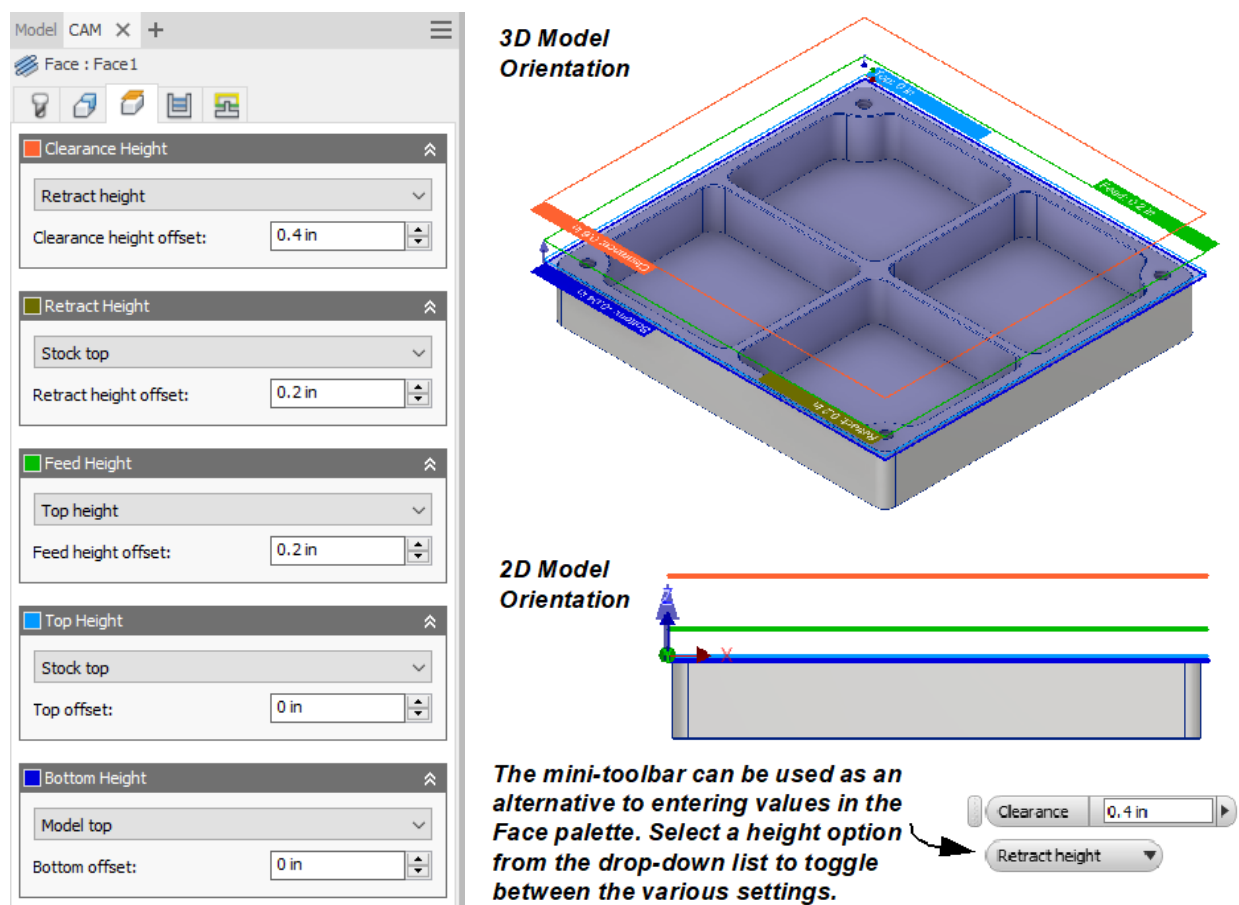

Figure 15
3. Select the  (Heights) tab. The planes available on this tab enable you to define the required heights for the tool for clearance, retract, etc. (as shown in Figure 15). Each plane is color coded and gives you a visual representation of the planes. Edit any of the values, as needed, directly in the palette or in the mini-toolbar.